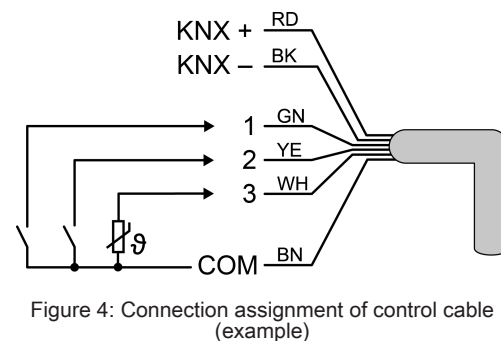

Figure 4: Connection assignment of control cable (example)
- If required, connect potential-free contacts or dew/leakage sensors to inputs 1...3, or NTC temperature sensors to input 3 (Figure 4).